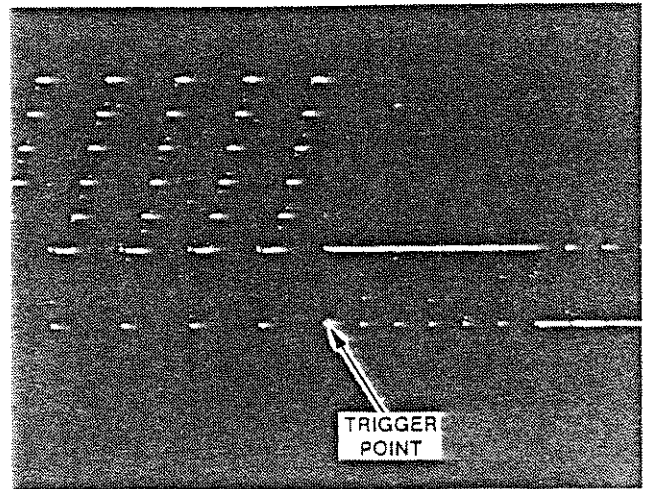

Fig. 4-32 TV PAL-M system trigger display
- c. CHECK that the trigger point shifts 3 lines to the left on the Monitor display (Figure 4-32).